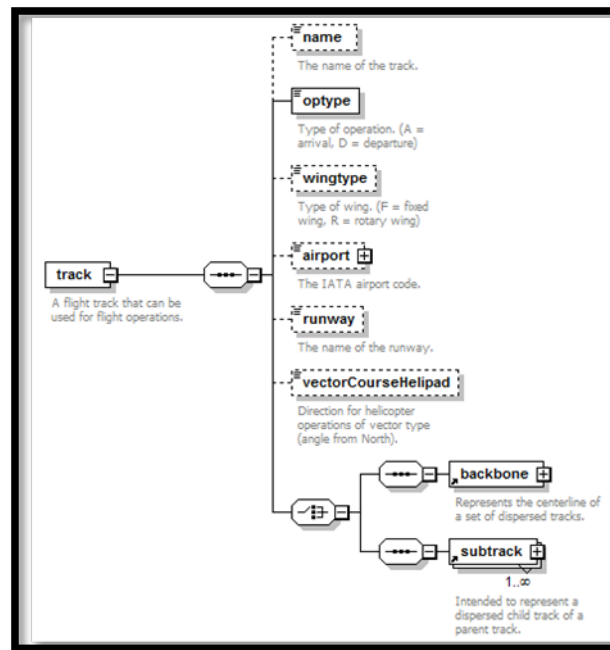

Figure 71. ASIF element – track
15. **AsifXml/trackOpSet/track** (Figure 71):